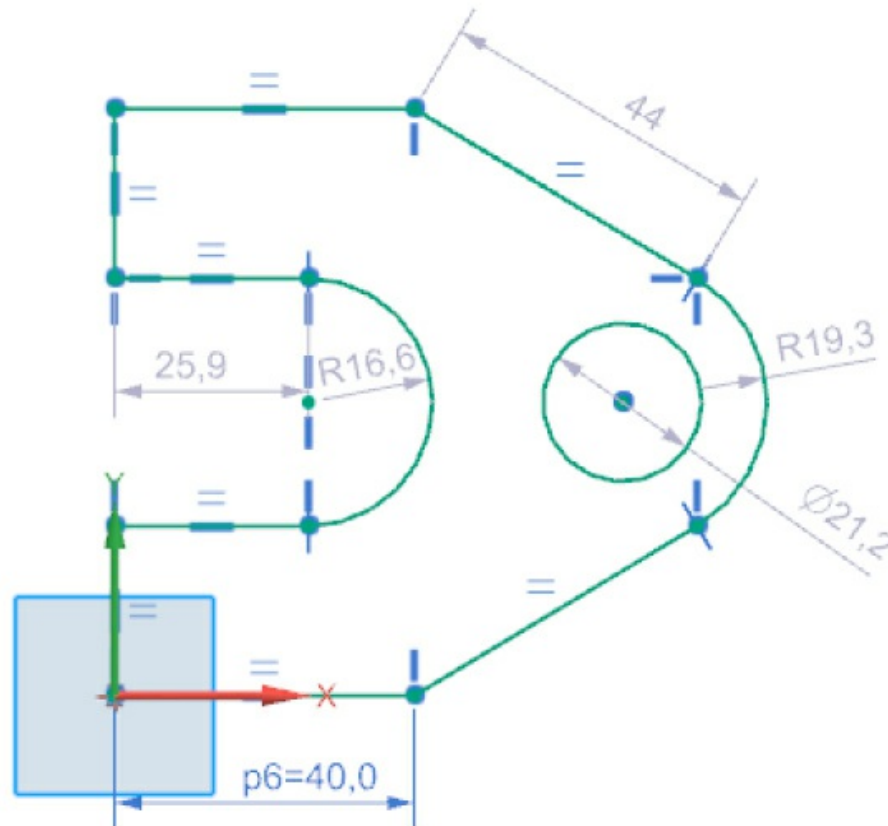

Figure 3-57 *The sketch displayed after adding the required constraints*
- Add the geometric and dimensional constraints to the sketch, refer to Figures 3-57 and 3-58.
The sketch after applying all the constraints is shown in Figure 3-57.